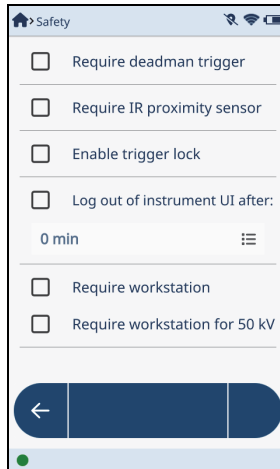

Figure 4-18 Safety screen
- ◆ Tap the **Safety** button () in the **Menu Tray** to open the **Safety** screen (see Figure 4-18 on page 129).